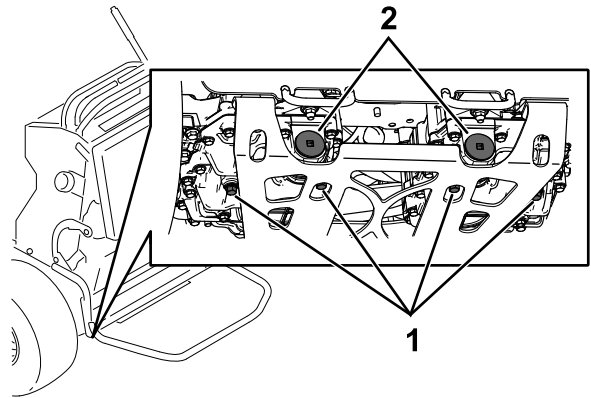

Figure 82
5. Locate the drain plug in the bottom of each transmission and place a drain pan under the plugs (Figure 82).